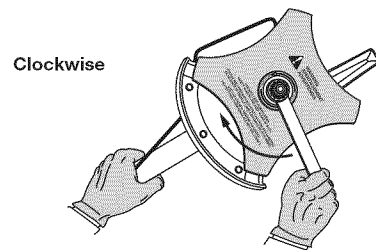

Fig. 6
- Hold the locking rod in place by grasping it next to the boom of the unit (Fig. 6).
- While holding the locking rod, loosen the nut on the blade by turning it clockwise with a 5/8 inch closed-end or socket wrench (Fig. 6).